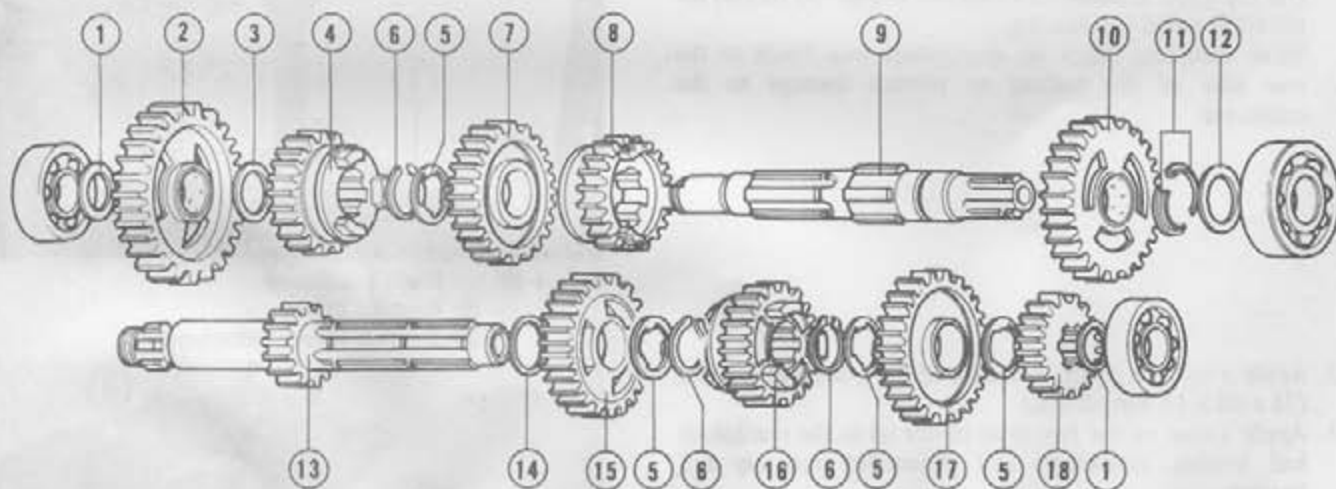

Fig. 4-86 ① 17.2mm thrust washer ⑩ Countershaft 2nd gear
② Center gear shift fork
③ Gearshift fork guide pin clip
④ Gearshift fork guide pin
6. Assemble the transmission as shown in Fig.4-86.